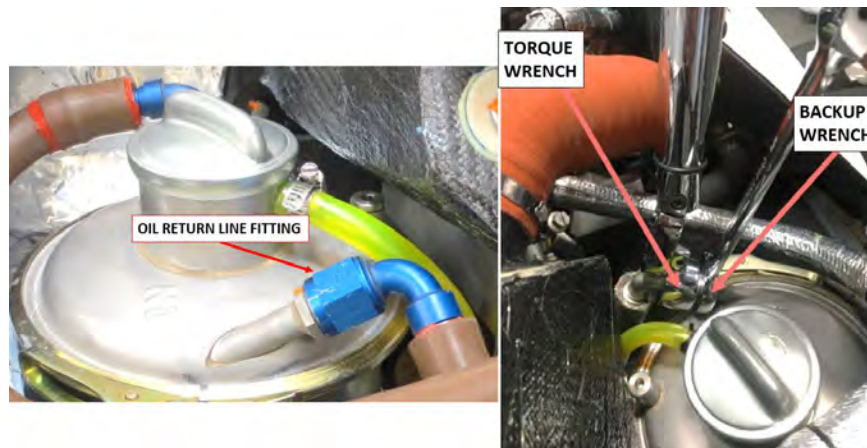

FIGURE 17-14
30. Remove plugs and install oil return hose at "IN" port of oil tank. (See Figure 17-14.) Torque B nut to 300-350 in-lb if using Method A or 290-330 in-lb if using Method B. (See Figure 17-10.)